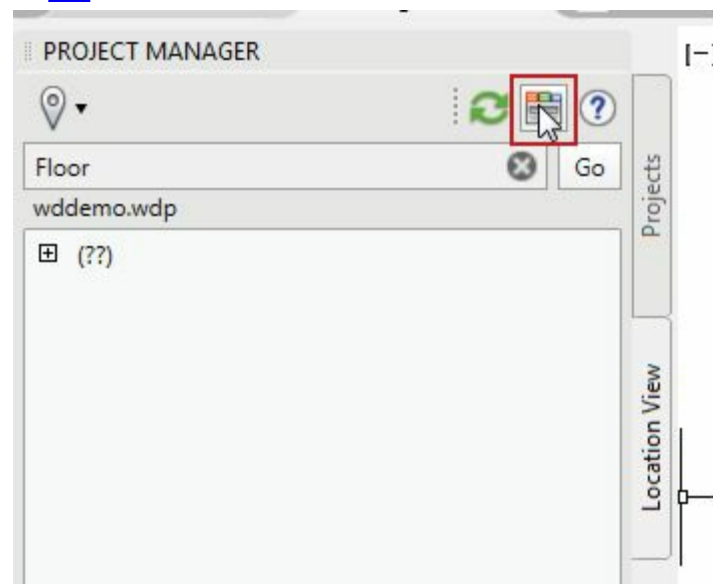
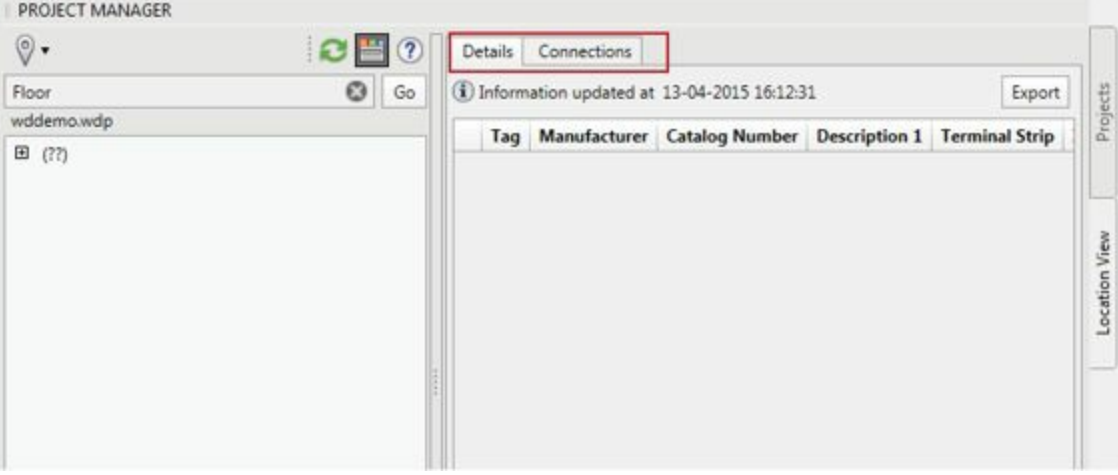

Figure-50. Display Details and Connections button
Figure-51. Details and Connections tabs
- Click on the **Display Details and Connections** button from the **Project Manager**; refer to Figure-50. The **Details** and **Connections** tabs will be added in the **Project Manager**; refer to Figure-51.